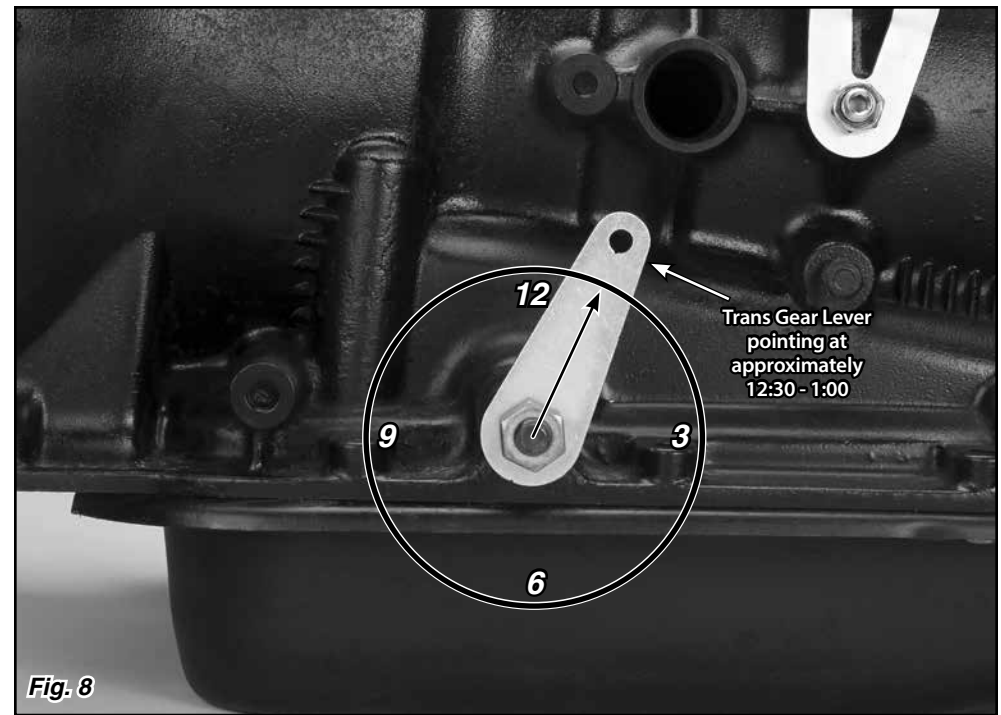

Fig. 8
Step 13: Install the trans gear lever onto the transmission and secure with your original nut. Place the trans gear lever in the Park position with the top of the lever pointing up and slightly towards the rear of the transmission, at about the 12:30 - 1:00 position. **Fig. 8**